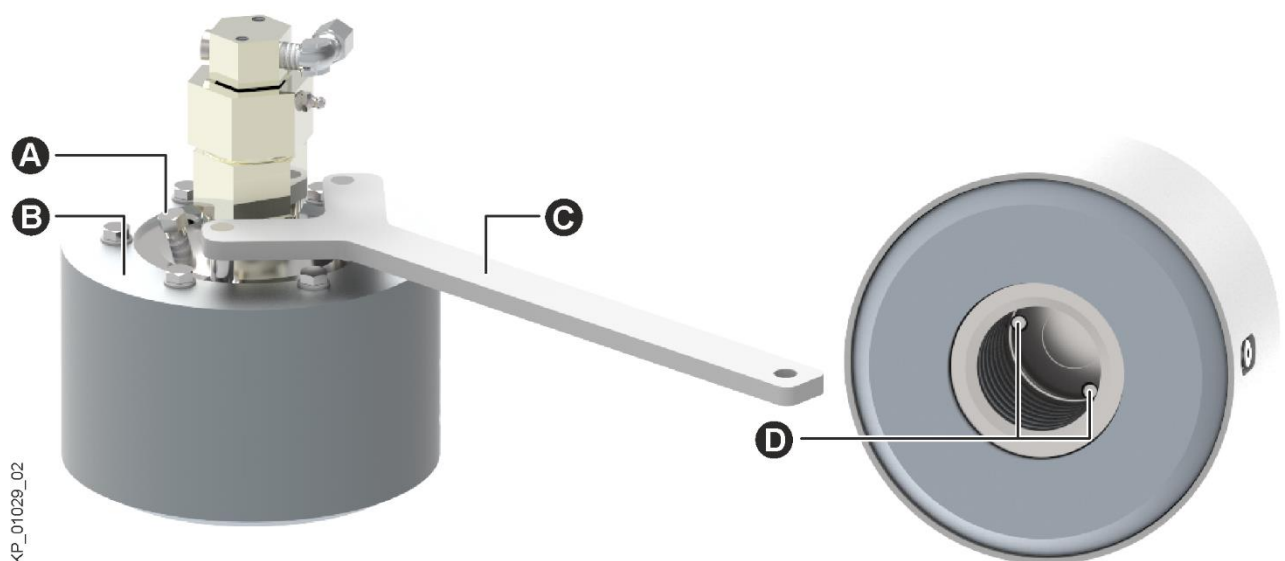

Fig. 21: Hydraulic nut with lock screws
- Before screwing on the hydraulic nut, turn back the lock screws (Fig. 21/A) to such an extent that they do not protrude (Fig. 21/D).
- Put on the hydraulic nut (Fig. 21/B).
- Then tighten the hydraulic nut clockwise using the provided open-ended spanner (Fig. 21/C).
- Tighten the lock screws (Fig. 21/A).